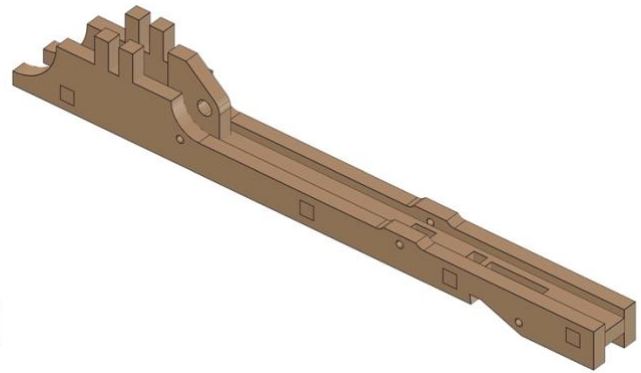

Fig. 6
- *Fig. 6* shows the completed process.